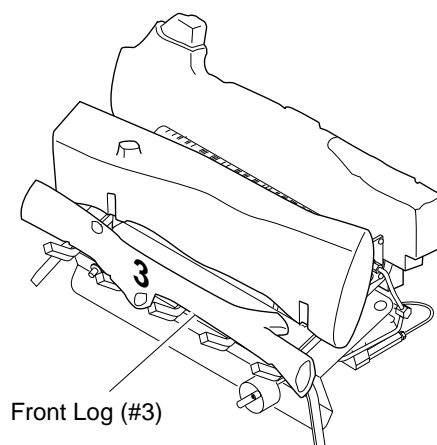

Figure 18 - Installing Front Log
3. Place front log (#3) into place in front of bottom middle log (#2) (see Figure 18). Make sure notches on bottom rest on grate prongs.